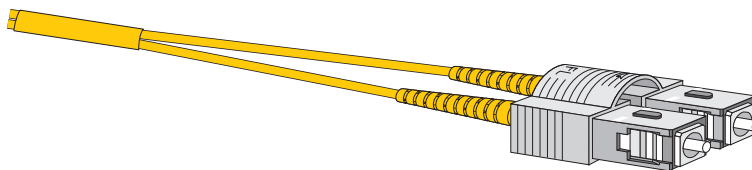

Figure 37. FCS/SC Duplex Connector
- **XDF Laser** - A singlemode FCS/SC duplex connector is required to attach singlemode fiber-optic cable. Only singlemode cable is used. The exterior jacket of singlemode cable is typically yellow. Figure 37 shows an FCS/SC duplex connector.
- **FCV** - A singlemode FCS/SC duplex connector is required to attach singlemode fiber-optic cable. The exterior jacket of singlemode cable is typically yellow. Figure 37 shows an FCS/SC duplex connector.